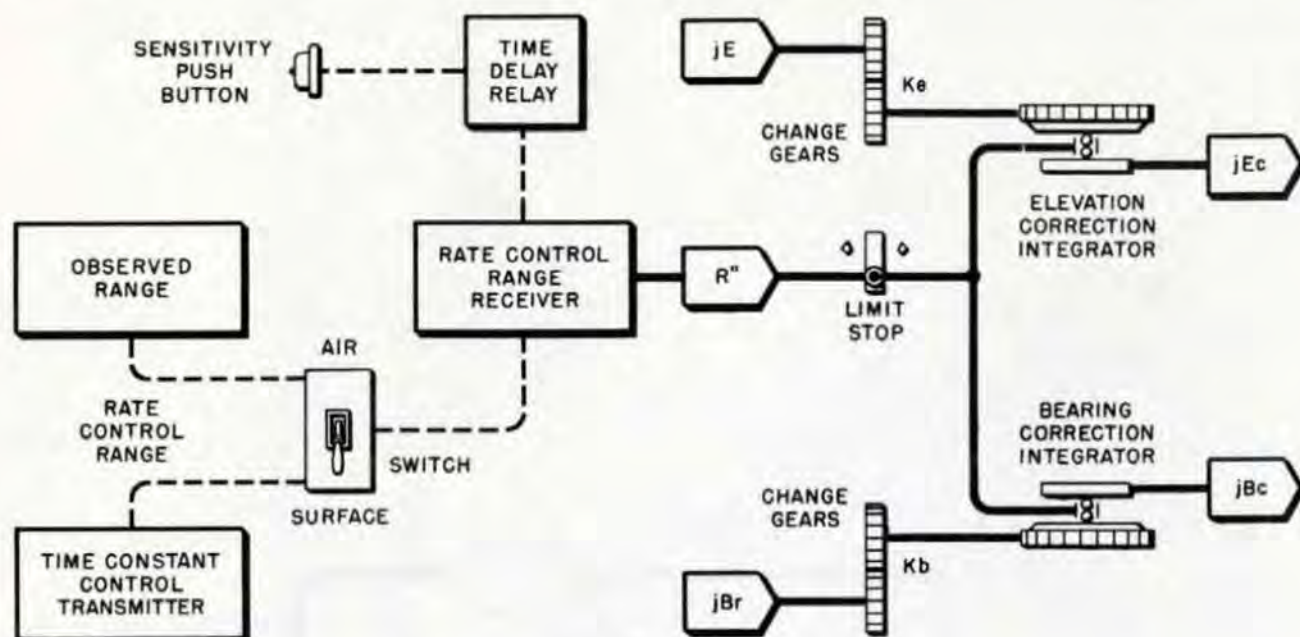

Figure 10. Sensitivity Control System.
2. Mechanism for controlling sensitivity of the elevation and bearing networks (figure 10) has been added. This comprises the following separate mechanisms: two 3-inch disc integrators, a single-speed rate control range receiver, a time constant control transmitter, and a time delay relay.
and the corrections to the target motion rates to be applied in the computer are determined. Measurement of the differences is accomplished in the same manner and by the same mechanisms in both Computer Mk 1 and Computer Mk 1A. This can be verified by reference to pages 242 to 247 in OP 1064 (particularly the diagrams on pages 243, 245, and 247) and by tracing the origin of $j dR$, jE , and jBr in the schematic diagram (figure 24). This diagram will be found at the back of this addendum. Determination of the rate control rate corrections (jEc in elevation, jBc in bearing) is different in Computers Mk 1 and Mk 1A. The measured elevation rate error (jE) and the measured bearing rate error (jBr), being angular quantities, are converted into linear quantities. In Computer Mk 1A this is accomplished by means of the elevation correction integrator and the bearing correction integrator, which are shown in figures 10 and 24. It can be seen that the integrator discs are driven by the angular measurements, while the carriages are positioned by range. Thus, the roller outputs of the integrators are products of the angular rate errors and range. The linear rate error corresponding to a given angular rate error is proportional to range, therefore the outputs of the integrators represent the linear rate error, jEc for elevation, jBc for bearing. These outputs are the rate error corrections set into the component integrators of the computer. For purposes of stability, it is desirable to make these corrections correspondingly less than the measured errors. This is accomplished by introducing less-than-unity gear ratios, Ke and Kb , in the jE and jBr shaft line inputs to the correction integrator discs. This affects the time constant of the instrument (the time required to reduce the error to 37% of its original value) as will be discussed in detail later. Change gears are provided so that the ratios may be conveniently altered if it is found desirable to do so.
The elevation component integrators resolve range rate correction ($j dR$) and elevation rate correction (jEc) into horizontal and vertical components as described on pages 222 and 223 of OP 1064. The horizontal component ($j dRh$) is applied as an input to the target angle component integrators (see figure 10). The vertical component (jHc) is applied as a correction to dH at the dH follow-up. This follow-up is of the limited error type like the jSh and jCt follow-ups. Referring to figure 24, it is seen that in this type of follow-up, the follow-up differential spider shaft operates a limit stop, and that there is a friction drive in the input line. The arrangement is such that if either the jHc or the dH line is rotated while the follow-up is de-energized, a limit of the stop is soon reached, after which the friction drive permits continued rotation of either line. When energized, the follow-up needs to drive but a very short amount to synchronism, after which it will amplify any further input of jHc . This avoids having inputs that were made while the follow-up was de-energized upset by the follow-up running to synchronism when power is applied.
Sensitivity control mechanisms. The mechanisms involved in the sensitivity control network are the bearing, elevation, and range correction integrators; the time constant change gears; the rate control range receiver, the time constant control transmitter, the Air-Surface switch, the sensitivity push button, and the time delay relay. (See figures 10 and 24.)
Figure 10 shows schematically the network for controlling the sensitivity of the elevation and bearing rate control networks of Computer Mk 1A. In the figure, the dotted lines indicate electrical circuits. Inputs to the sensitivity control network are angular
The range input to the sensitivity control network is limited to a maximum value of 8000 yards. Referring to figure 10, it is seen that the input of R'' is derived from range sent to the rate control range receiver from either the rangefinder or the time constant control transmitter. When R'' is received from the rangefinder and is not more than 8000 yards, R'' equals R , and the time constant of the network is Ke . For ranges beyond 8000 yards but below 22,500 yards, the time constant increases uniformly because the ratio $\left(\frac{R}{R''} \right)$ no longer equals unity, R'' being held at 8000 yards while R continues to increase. As an example, with R at
The rate control range receiver (figure 10) is of the type wherein both coils of the servo motor stator are energized directly by the power supply when the input and output are in synchronism. Depressing the sensitivity push button opens the time delay relay solenoid circuit. The relay then operates as previously described under the heading "sensitivity control mechanism", and shifts the single letter side of the power supply from the center contact of the receiver follow-up to the left lead of the rate control servo motor, at the same time disconnecting the left follow-up contact from the left side of